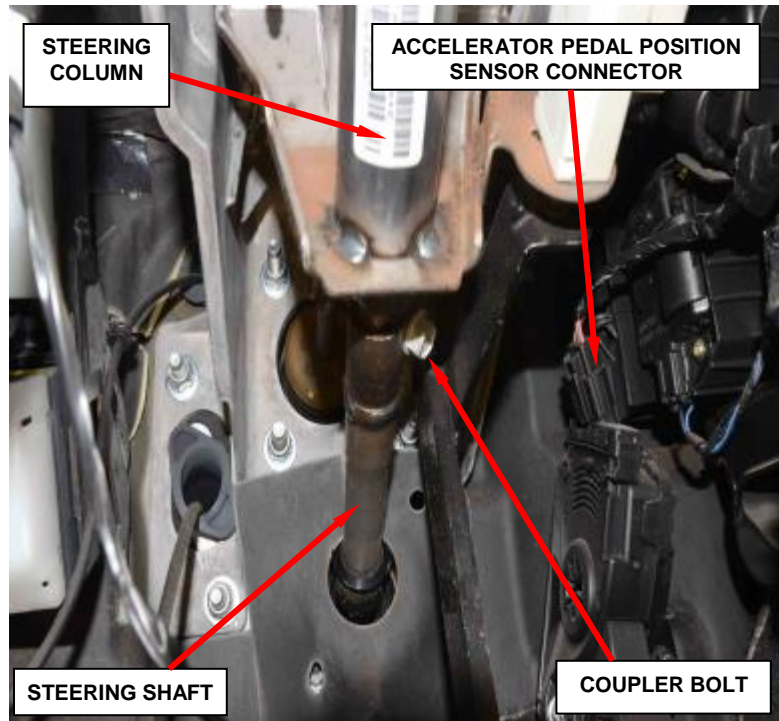

Figure 91 – Steering Shaft Coupler
- a. Disconnect the accelerator position sensor electrical connector (Figure 91).
14. Remove and **discard** the upper steering shaft coupler bolt from the column (Figure 91).